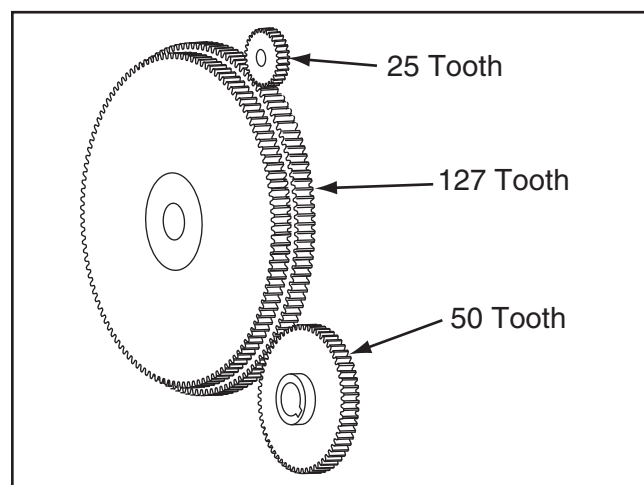

Figure 79. Change gears set up for non-threading power feed.
1. Make sure the change gears are in the configuration displayed at the top of the feed rate chart and illustrated in **Figure 79** (refer to **Change Gears** on the next page for detailed instructions).